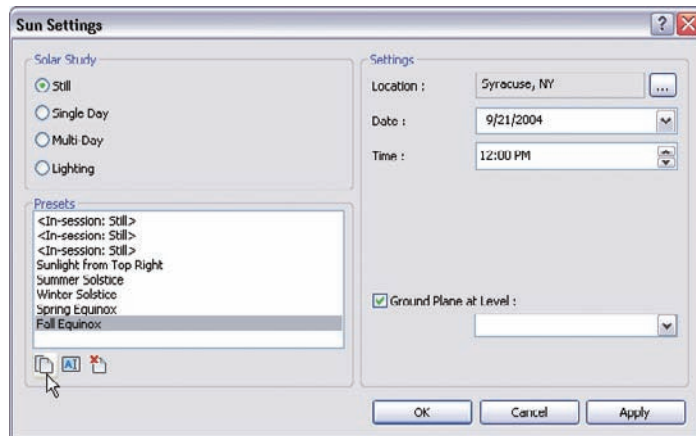

FIGURE 19.13 Changing the scene to dusk
20. Click the Duplicate button, as shown at the bottom left in Figure 19.13.
22. Set the time for 7:30 PM (see Figure 19.13).